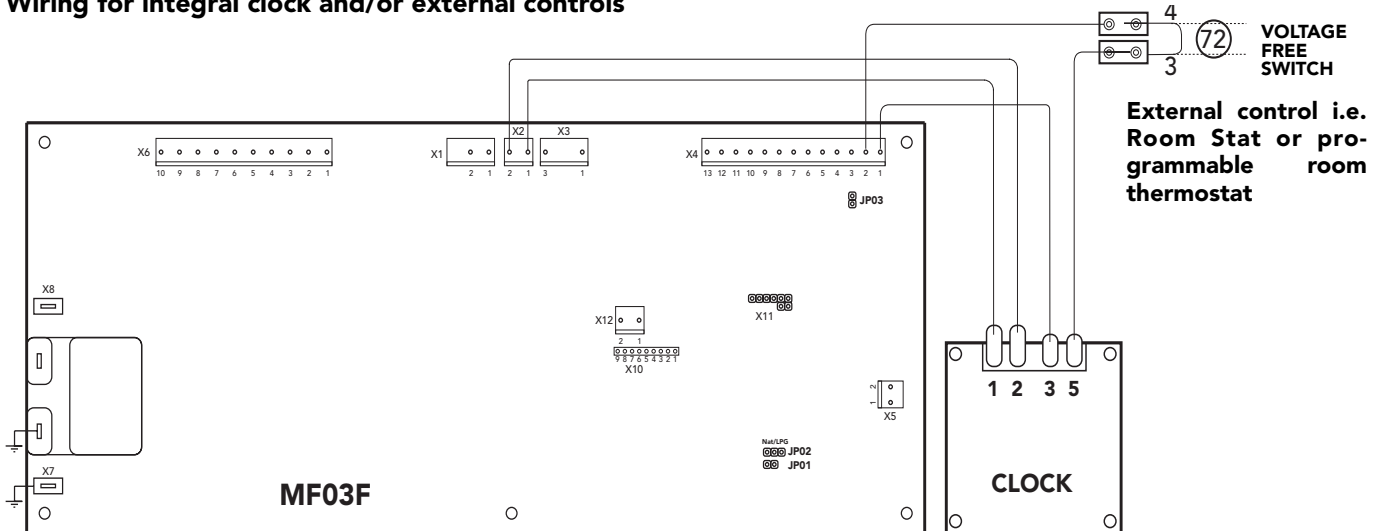

Fig. 21b
### **3.12 Installing a room thermostat (72) (fig. 21b)**
Connect the room thermostat (72) as shown in figure 21b.